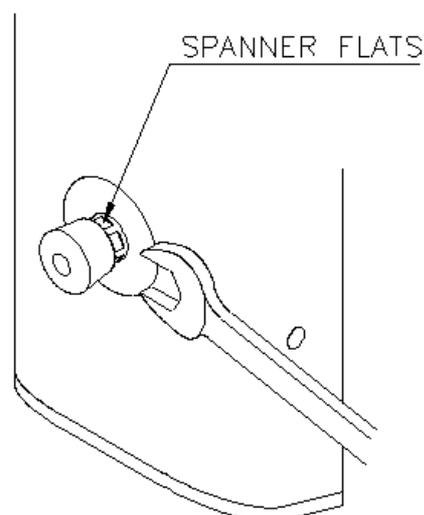

Fig. 7
2) Using a thin jaw spanner, unscrew the cartridge by the 2 flats shown in Fig. 7.